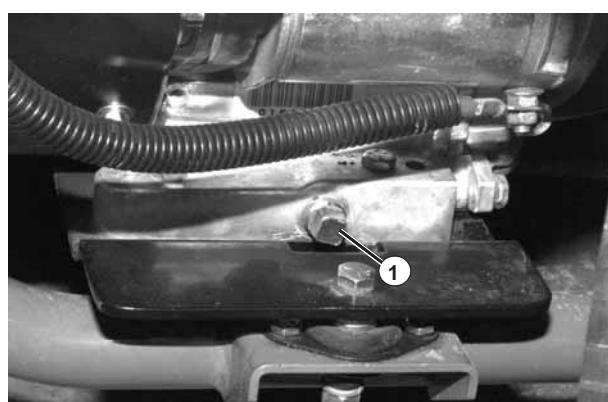

Figure 9.5.2
- 1 After first warming up the engine remove the drain plug (Fig. 9.5.2) and drain all the oil from the crankcase sump.